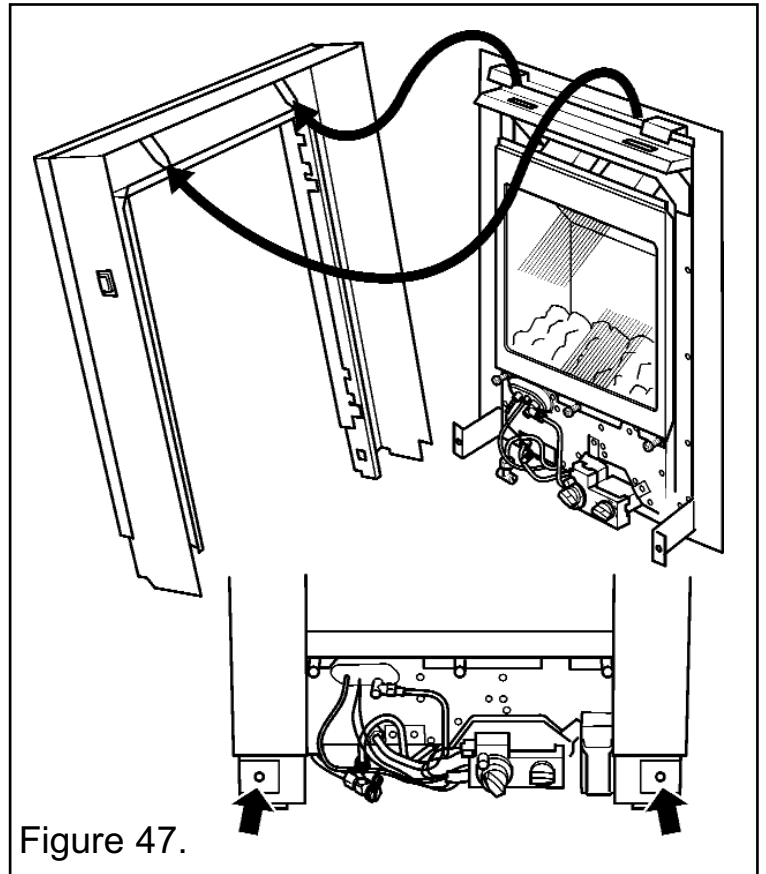

Figure 47.
- Unscrew and remove the two screws that secure the bottom of the fascia sides to the convection box (See figure 47).
- Raise the fascia to allow the retaining lugs at the top to clear the slots in the convection box hood and then lift clear (See figure 47). Be careful not trap the wiring loom when lifting clear.